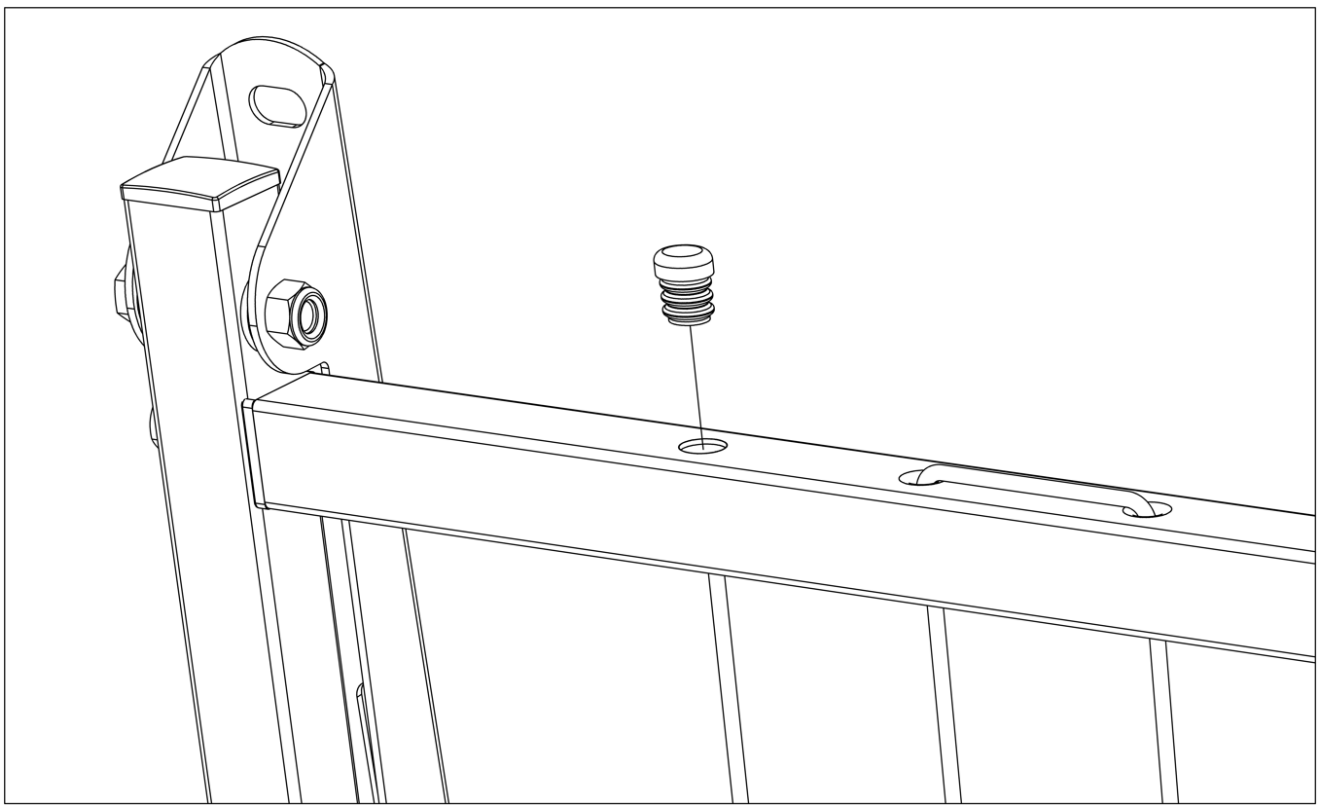

Fig 7. Fit plastic plug to rear bar.
14. Install the round plastic plug to Ø10.5mm hole where you started cording. (Fig 7)